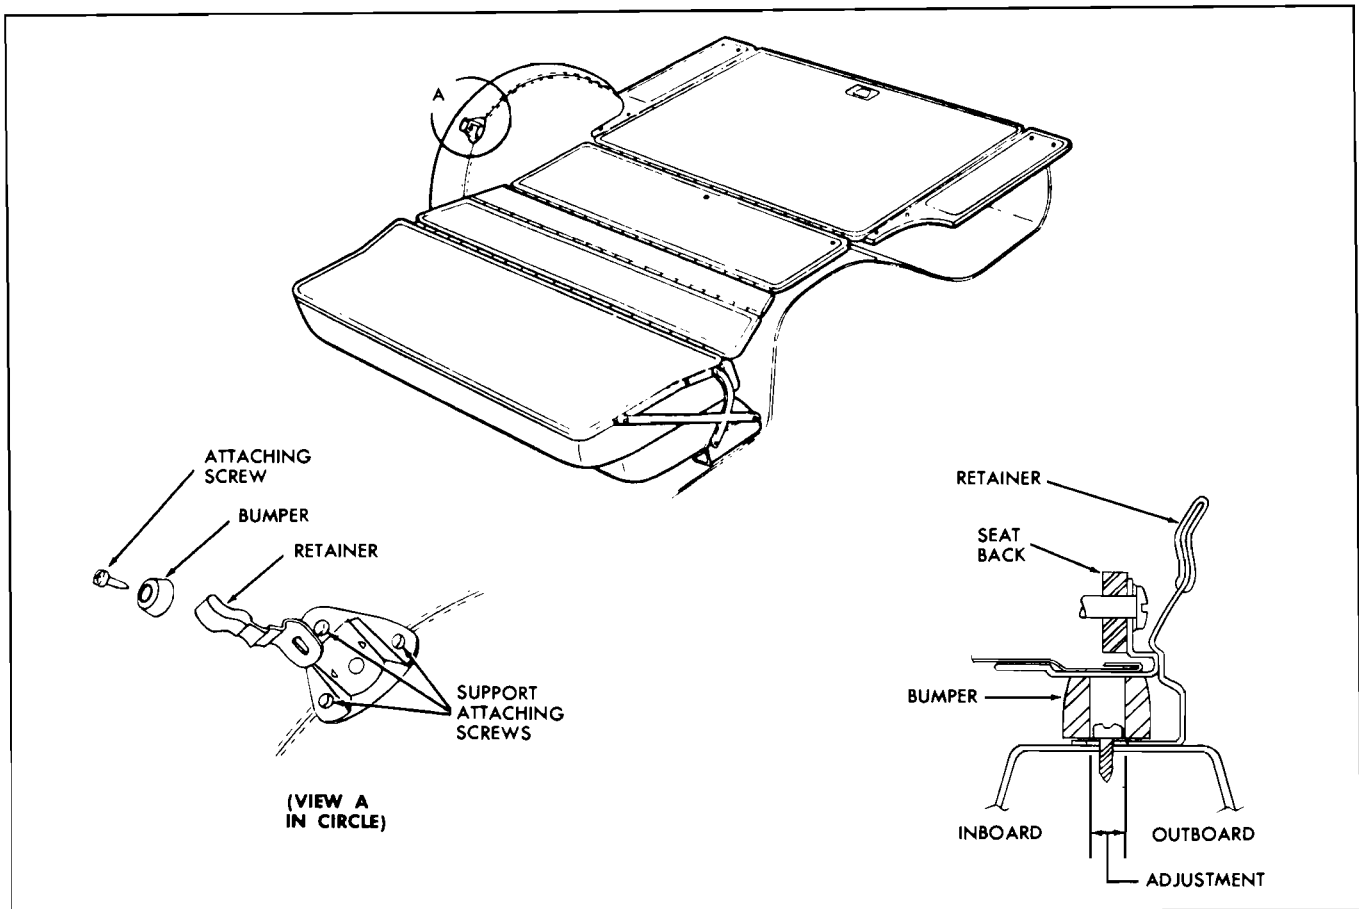

Fig. 10A-77 Folding Rear Seat Back Bumper, Retainer and Support
2. Remove screws securing compartment floor side panel to side panel support as shown at "A", Fig. 10A-76, and remove panel assembly from body.
1. With folding rear seat back in down position, remove screw shown in View "A", Fig. 10A-77, and remove bumper and retainer from wheelhouse support.
2. Remove three (3) screws shown in View "A", Fig. 10A-77, and remove support from wheelhouse assembly.
NOTE: The folding rear seat back retainer is adjustable inboard or outboard (Fig. 10A-77). To adjust retainer, raise folding rear seat back to up position and check retainer tension. Lower folding seat back and loosen retainer attaching screw. Adjust retainer inboard or outboard as required then tighten attaching screw. Recheck folding seat back assembly. Where required, readjust retainer until desired seat back retention has been obtained.